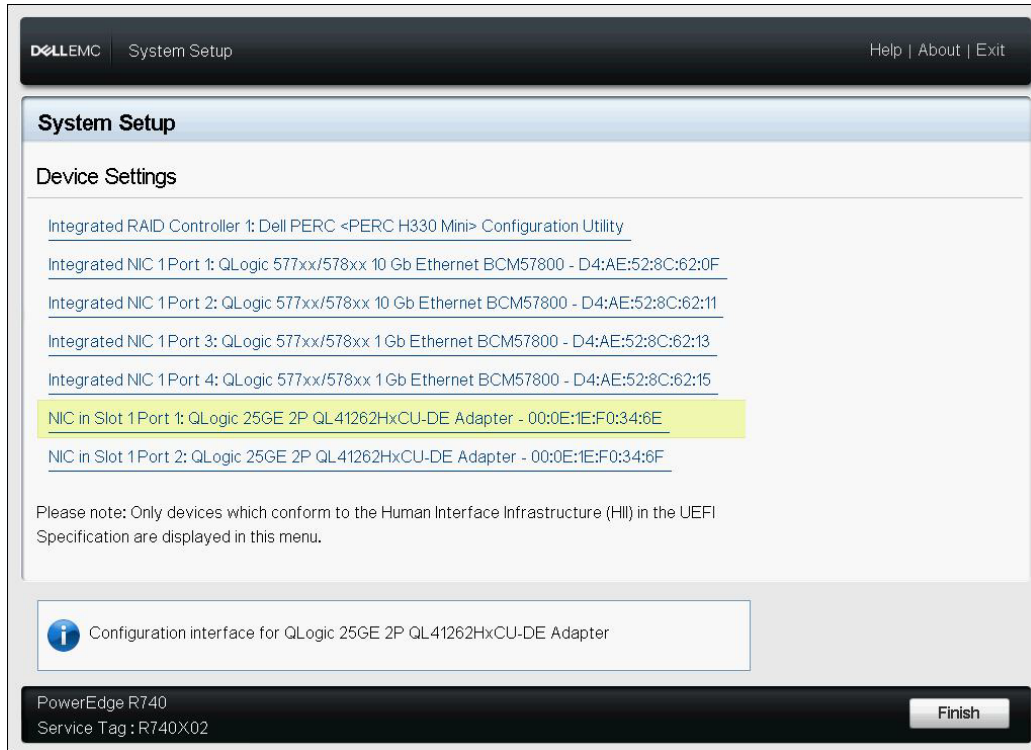

Figure 6-27. System Setup: Device Settings, Port Selection
3. On the Device Settings page, select the Marvell FastLinQ adapter (Figure 6-27).